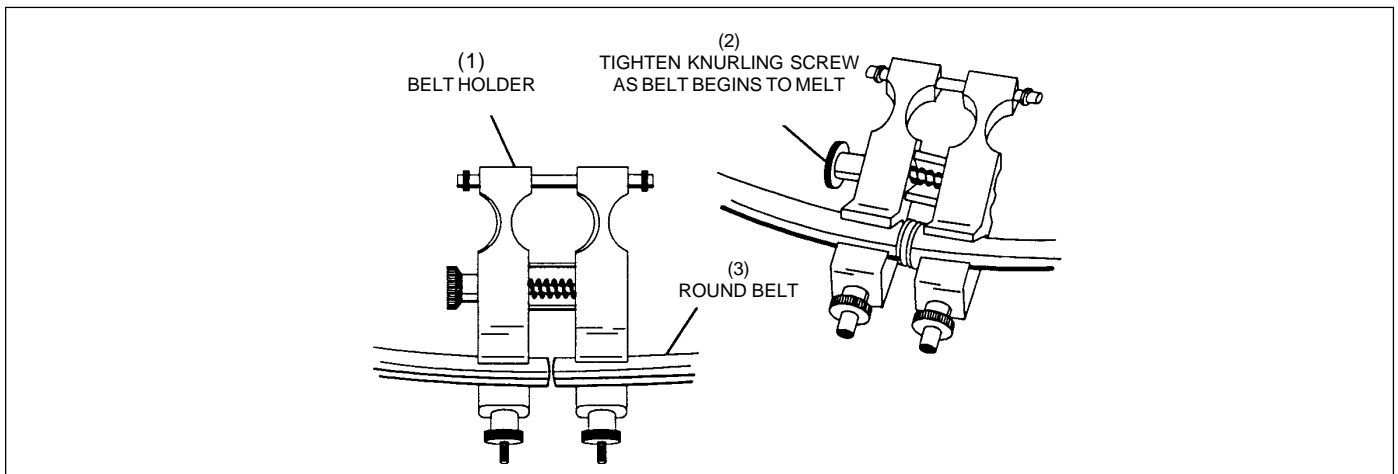

Figure 8-10. Welding Round Belts.
4. Place each belt end in the belt holder so they are *slightly* pressed together. Refer to *Figure 8-10*.
7. When a pad of melted polycord has formed, withdraw the soldering iron. Refer to *Figure 8-10*.